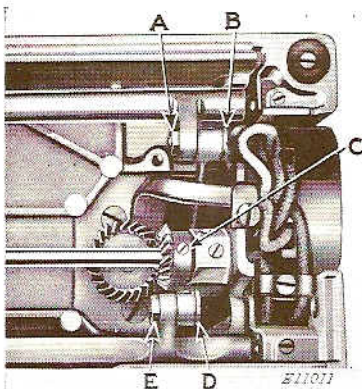

FIG. 29. FEED DOG ADJUSTMENT
When it is necessary to raise or lower the feed dog, remove the bottom cover plate and loosen the nut (E, Fig. 29) on the end of the feed lifting eccentric screw (D, Fig. 29). Turn the eccentric screw (D) until the high throw of the eccentric is toward the rotary hook shaft gear (C, Fig. 29). When the eccentric screw (D) is in this position, the top of the feed dog teeth will be at the correct height above the throat plate. Be careful not to adjust the feed dog low enough to strike the hook when the feed is in reverse and when the longest stitch is being used. Then securely tighten nut (E, Fig. 29).
The feed dog should be positioned in the slots of the throat plate so that it will not come in contact with the throat plate at either end of the slots during its travel. If the feed dog is not correctly positioned, remove the bottom cover plate. Loosen the nut (A, Fig. 29) on the end of the eccentric screw (B, Fig. 29) and turn the screw so that the centre row of teeth will be close to the end of the feed dog slot nearest the needle hole in the throat plate, but not close enough to strike the end of the slot. The eccentric
screw (B, Fig. 29) is in correct position when the high throw of the eccentric is upward and away from the gear (C, Fig. 29) on the hook shaft.